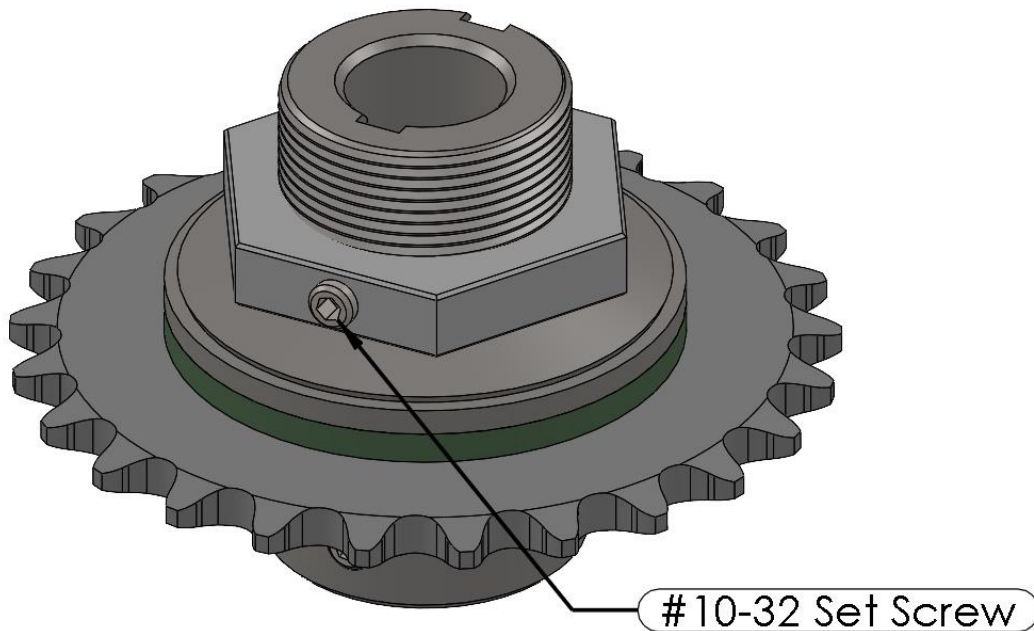

Figure 2
4. Loosen set screw labeled in figure 2.